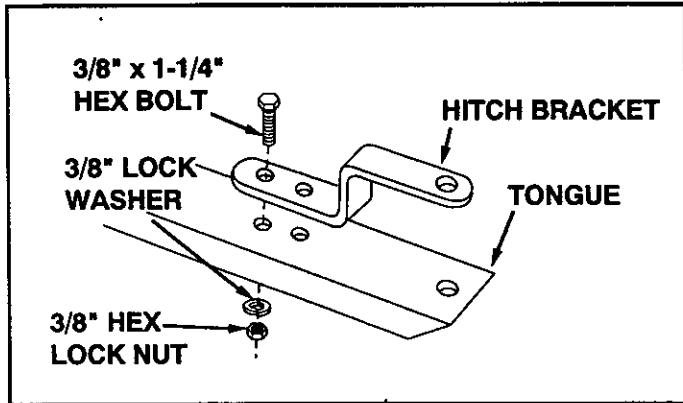

FIGURE 8
- Assemble the hitch bracket to the drawbar tongue, using two 3/8" x 1-1/4" hex bolts, 3/8" lock washers and 3/8" hex nuts. **Tighten.** See figure 8.